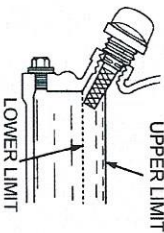

Figure 9. Engine Oil Dipstick (Oil Level)
4. If the oil level is low (Figure 9), fill to the edge of the oil filler hole with the recommended oil type (Table 7). Maximum oil capacity is 1.16 quarts (1.1 liters).